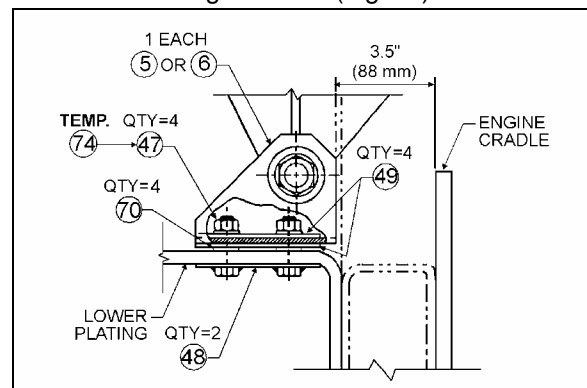

FIGURE 18: ANGLE SUPPORT
1. Install both attachment assembly plates (P/N 051779) (48, Fig. 18) through lower plating and secure with four spring nuts (P/N 500666), (70, Fig. 18). Then install one spacer (P/N 050705), (49, Fig. 18) on each spring nut at both anchoring locations (Fig. 18).
- Center seat assembly in the fan shroud using the horizontal displacement of the fan driving mechanism support. Center with the slots in the floor at anchoring angle support (on some vehicles only). Vertical displacement of the fan clutch is made possible by slots at the base of the fan clutch (on some vehicles only) or by shimming with additional spacers at anchoring locations. Temporarily secure assembly with two nuts (P/N 500709), (74, Fig. 18) at both anchoring locations.
- Check alignments again (steps 3, 4 & 5) then replace temporary anchoring nuts (P/N 500709) (74, Fig. 18) with four nuts (P/N 500714) (47, Fig. 18) and wrench tighten.